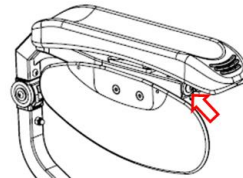
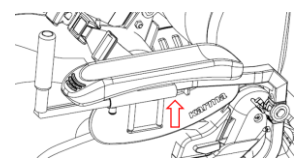

Figure 5.24
Figure 5.25
5.2.4.2 Use the #4 Allen key to loosen the screws. Adjust the armrest height and re-tighten the screws. (Figure 5-24, Figure 5-25)